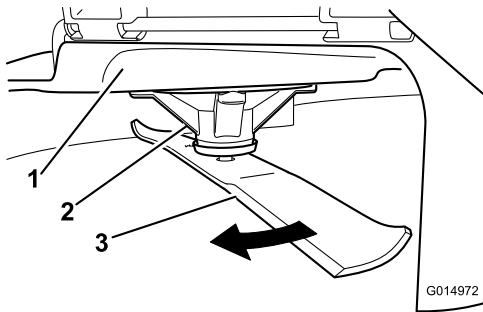

Figure 85
2. While wearing thickly padded gloves, or other adequate hand protection, slowly rotate the blade into a position that allows you to measure the distance between the cutting edge and the level surface the machine is on (Figure 85).